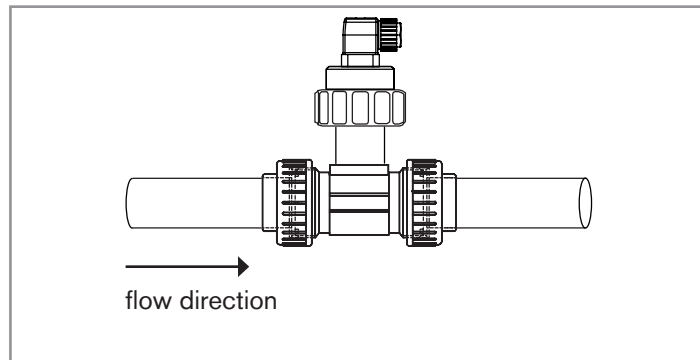
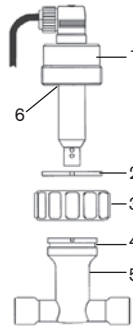

Fig. 3: Mounting position of the fitting-device system in the pipe
Fig. 4: Installation of the 8220 on the S020 fitting
The device can be installed on a pipe using a fitting type S020 (see Fig. 3 et Fig. 4).
- Install the fitting (mark 5) on the pipe acc. to the Operating Instructions of the fitting used and acc. to the Fig. 3.